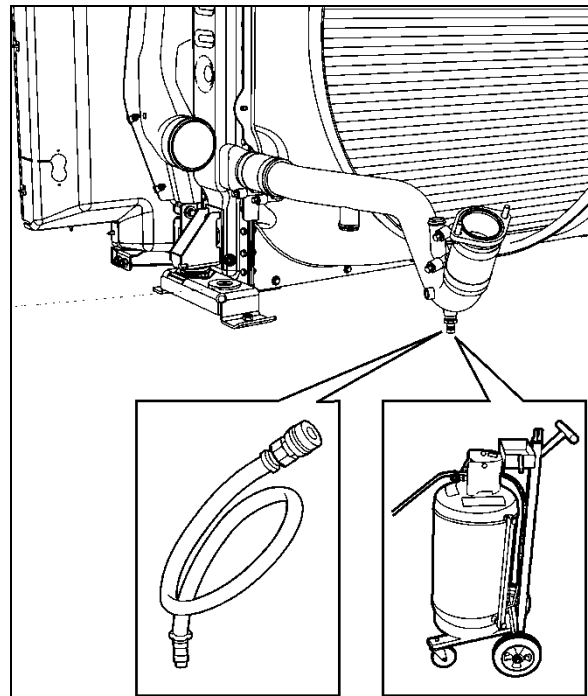

FIGURE 15: EXTRACTING COOLANT
5. Connect coolant extractor (Figure 15). Use coolant extractor to drain the coolant from the engine. An alternate method is to drain the coolant into a suitable container using the drain hose.
4. Connect coolant extractor (Figure 15). Use coolant extractor to drain the coolant from the engine. An alternate method is to drain the coolant into a suitable container using the drain hose.